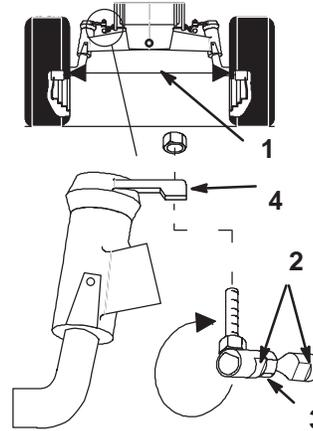

Figure 34
Maintain toe-in of the front wheels as specified. If uneven tire wear, lawn scuffing or hard steering develop adjustment may be required. Check the toe-in after every 100 operating hours or yearly, whichever occurs first (Fig. 34).
3. Measure, between the rims, at spindle level, in the front and rear of the wheels (Fig. 34).
2. Remove ball joint from one steering lever (Fig. 34).
4. Hold flats on ball joint to align with flats on tie rod and tighten jam nut (Fig. 34).